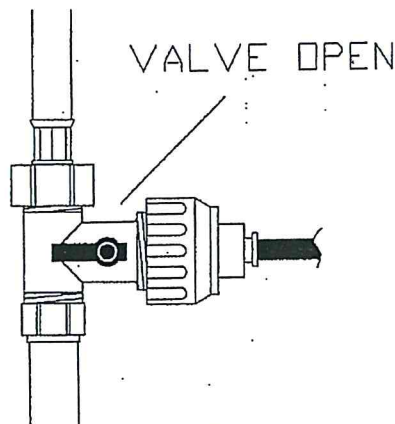

Fig 3.
8. Turn the lever on the isolator (A) to the open position (fig 3.). Note: for customers with the previous version of the filter system, open the water by turning the handwheel on the saddle valve.